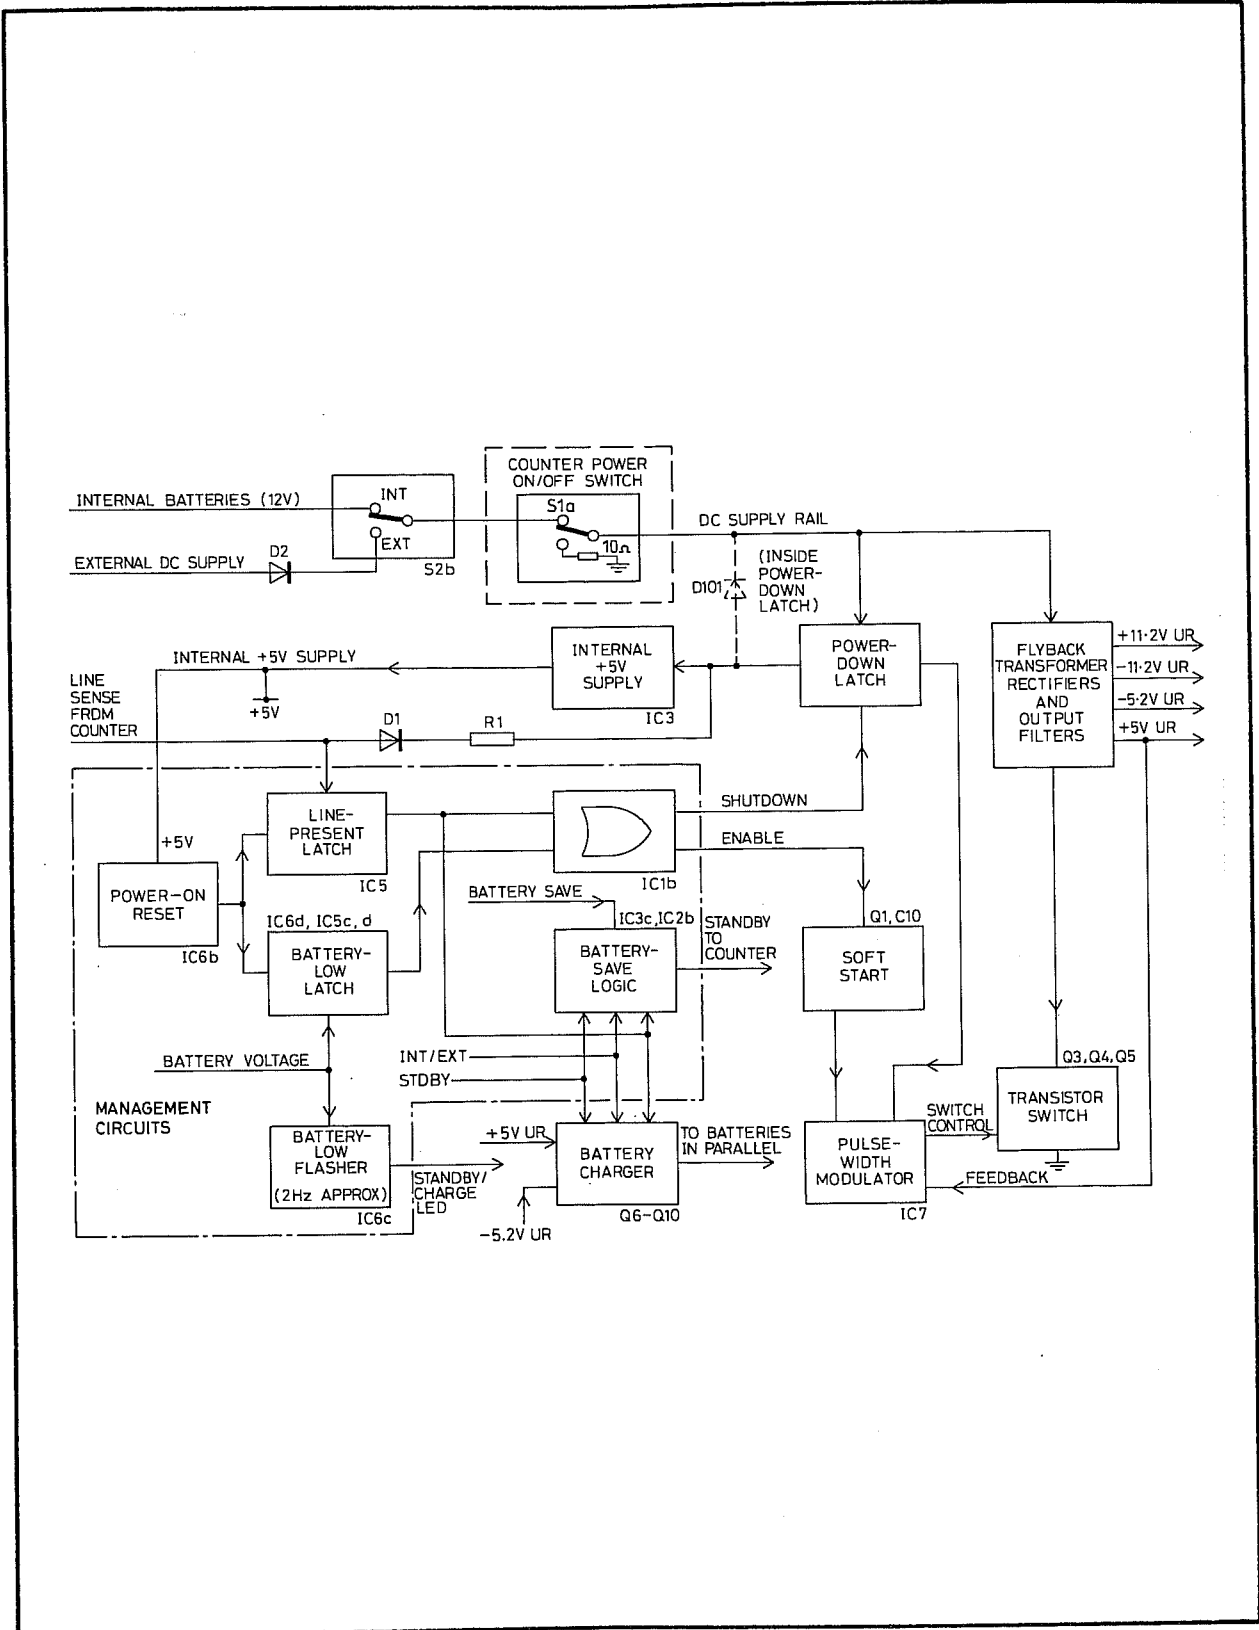

Fig. 6.19 The Battery Pack Option
- 216 A block diagram of the battery pack option is shown in Fig. 6.19. The battery pack option allows the instrument to be supplied from a +12 V internal battery pack (part of this option) or from an external DC supply. The output from the option is only partially regulated. Fine regulation is done on the motherboard in the normal way.
- 219 In the block diagram of the option, shown in Fig. 6.19, direct current, from either the internal battery pack or an external DC supply, passes through the primary of the flyback transformer and through a transistor switch to ground.